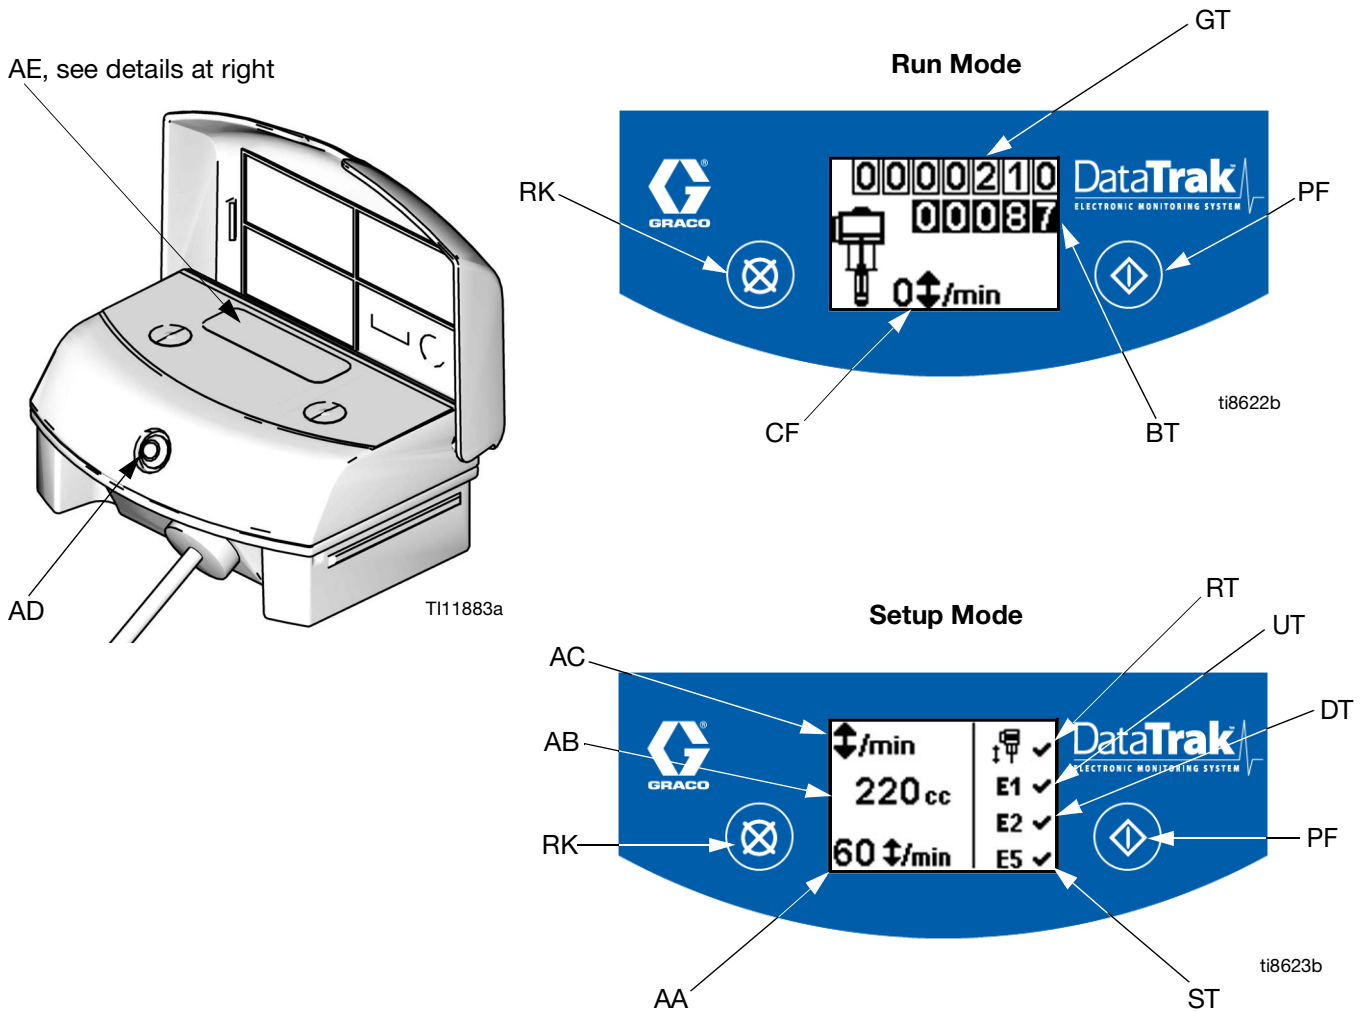

FIG. 9. DataTrak Controls and Indicators
## Key for FIG. 9
1. See FIG. 9. Press and hold  for 5 seconds until Setup menu appears.
**NOTE:** When runaway, E1, E2, and E5 error options are enabled, a ✓ will appear on the setup screen. See FIG. 9.
1. See FIG. 9. If pump runaway occurs, the runaway solenoid will actuate, stopping the pump. The LED (AD) will flash and the display (AE) will indicate a runaway condition (see Table 1). The display will cycle through six instruction screens.
2. Runaway Screens 1 and 2: To reset the runaway solenoid, close the master air valve (U). Wait for air to completely bleed off the air motor.
5. Open master air valve (U) to restart pump.
**NOTE:** To disable runaway monitoring, go to setup mode and set runaway value to 0 (zero) or toggle (RT) off  (see FIG. 9).
1. See FIG. 9. To enter Prime/Flush mode, press any key to wake up the display, then press . The Prime/Flush symbol will appear in the display and the LED will flash
2. While in Prime/Flush mode, runaway protection is disabled and the batch totalizer (BT) will not count. The grand totalizer (GT) continues to count.
See FIG. 9. The last digit of the batch totalizer (BT) represents tenths of gallons or liters. To reset the totalizer, press any key to wake up the display, then press and hold  for 3 seconds.
See FIG. 9. The display (AE) will turn off after 1 minute of inactivity in Run mode or 3 minutes in Setup mode. Press any key to wake up the display.
**NOTE:** The display (AE) may turn off if a high-level static discharge is applied to the DataTrak. Press any key to wake up the display.
DataTrak can diagnose several problems with the pump. When the monitor detects a problem, the LED (AD, FIG. 9) will flash and a diagnostic code will appear on the display. See Table 1.